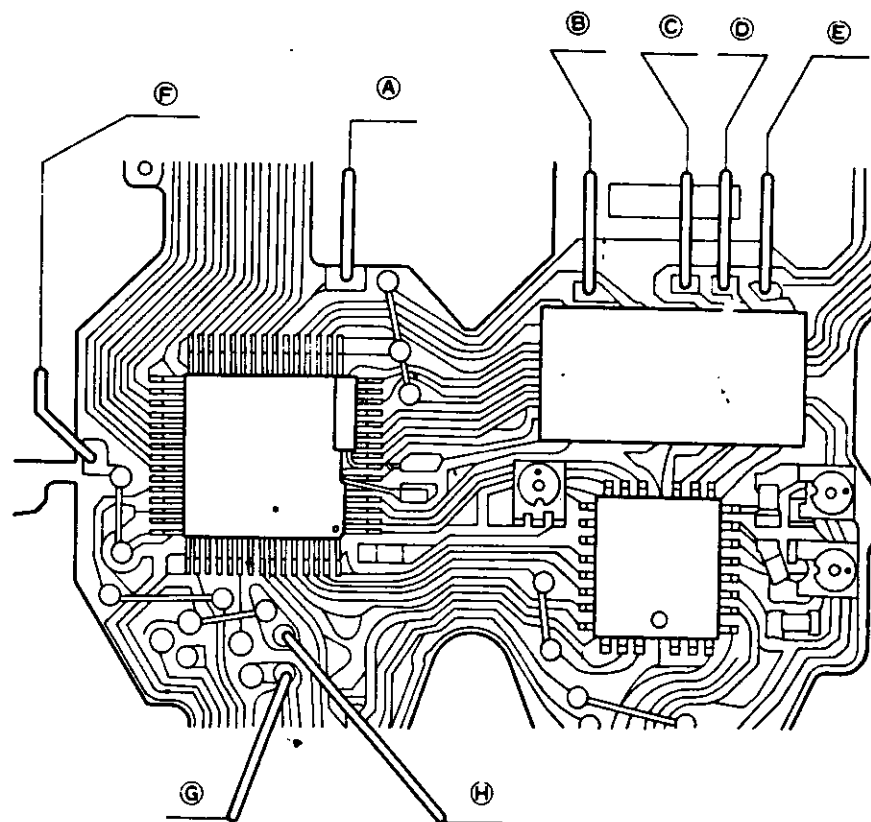

Fig. 36
- 1) Solder lead wires of the SPD circuit board assy as shown in Fig. 36.